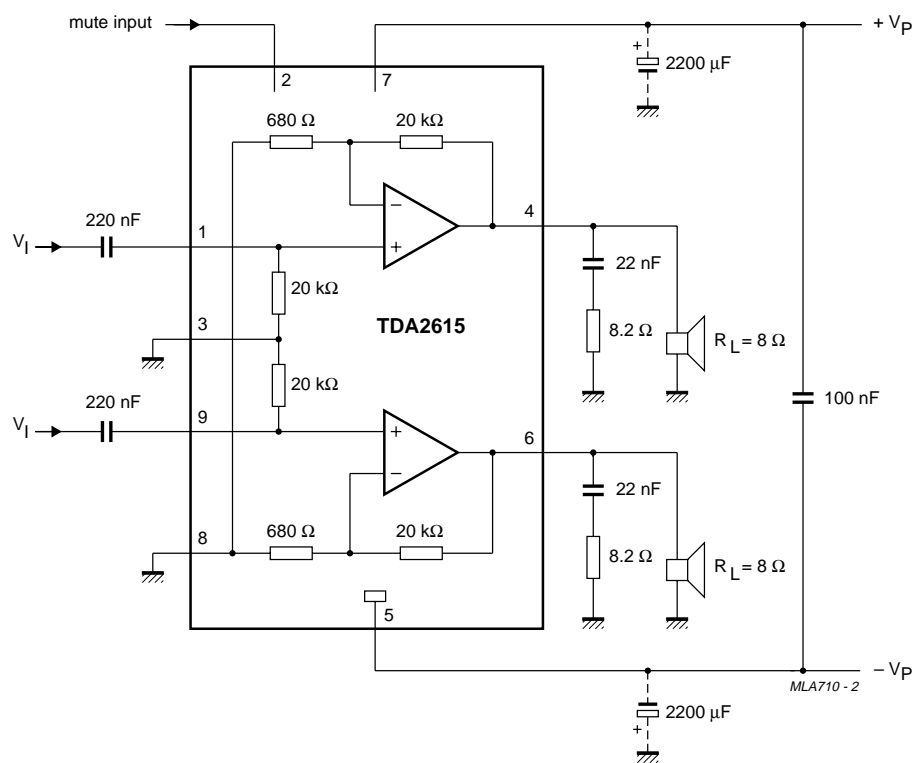

Fig.4 Test and application circuit with symmetrical power supply.
1. $V_P = \pm 12$ V; $R_L = 8$ Ω ; $T_{amb} = 25$ $^{\circ}$ C; $f_i = 1$ kHz; symmetrical power supply $I_{MUTE} = < 30$ μ A (see Fig.4).
5. $\pm V_P = 4$ V; $R_L = 8$ Ω ; $T_{amb} = 25$ $^{\circ}$ C; $f_i = 1$ kHz; symmetrical power supply (see Fig.4).